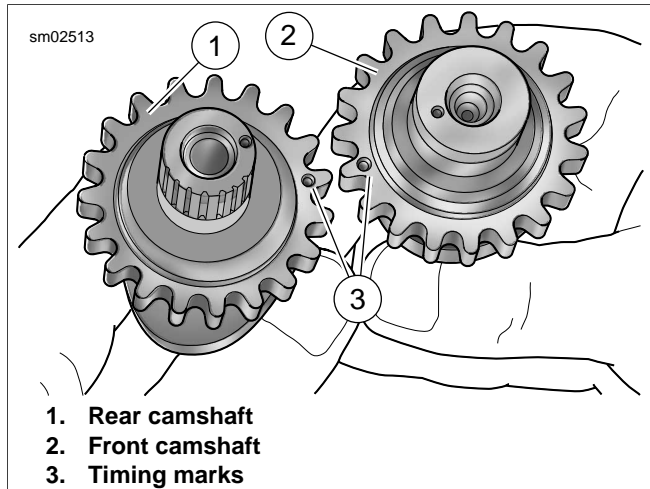

Figure 3-109. Camshaft Timing Marks
1. See Figure 3-109. Align timing marks on teeth of secondary cam sprockets (outboard faces).